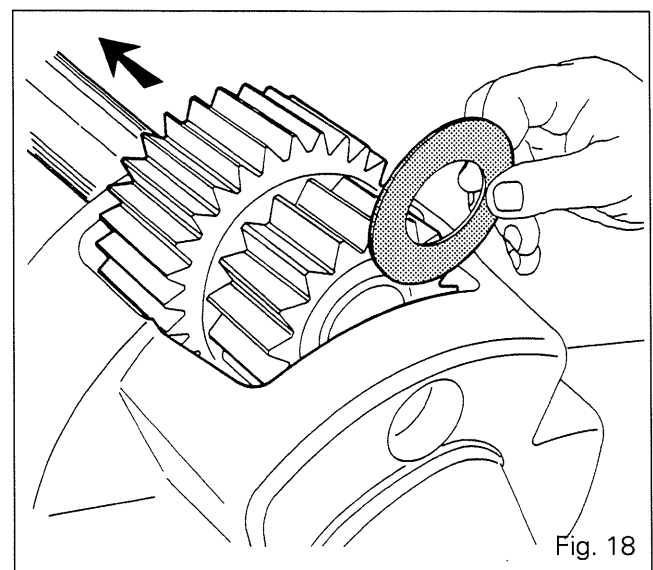

Fig. 18
17. Partially extract the three pins, fit the selected shims (Fig. 18).